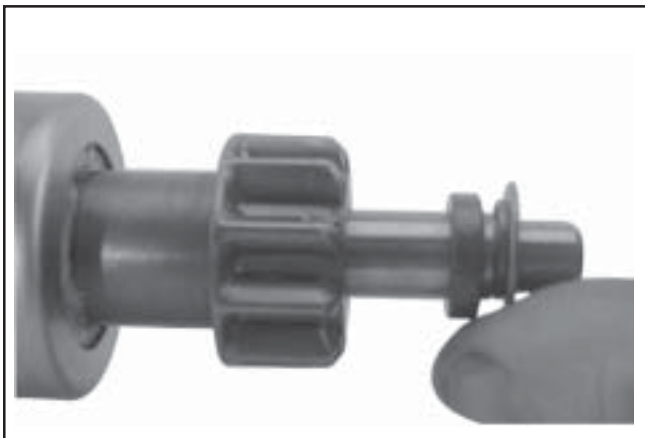

Figure 8-62. Installing Thrust Washer.
3. Install the offset thrust (stop) washer so the smaller "offset" of the washer faces the retainer/collar. See Figure 8-62.